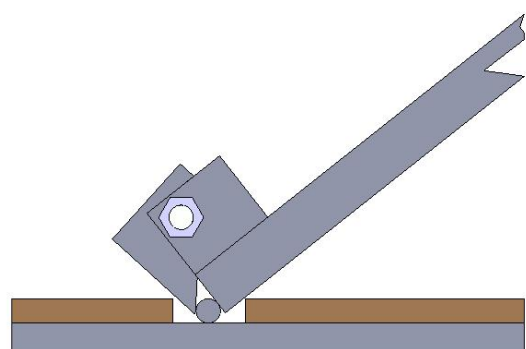

Fig.23
3. To lower the lift: raise it for a few seconds until the safety bar releases from the lock (see Fig. 23), then press the lowering handle.